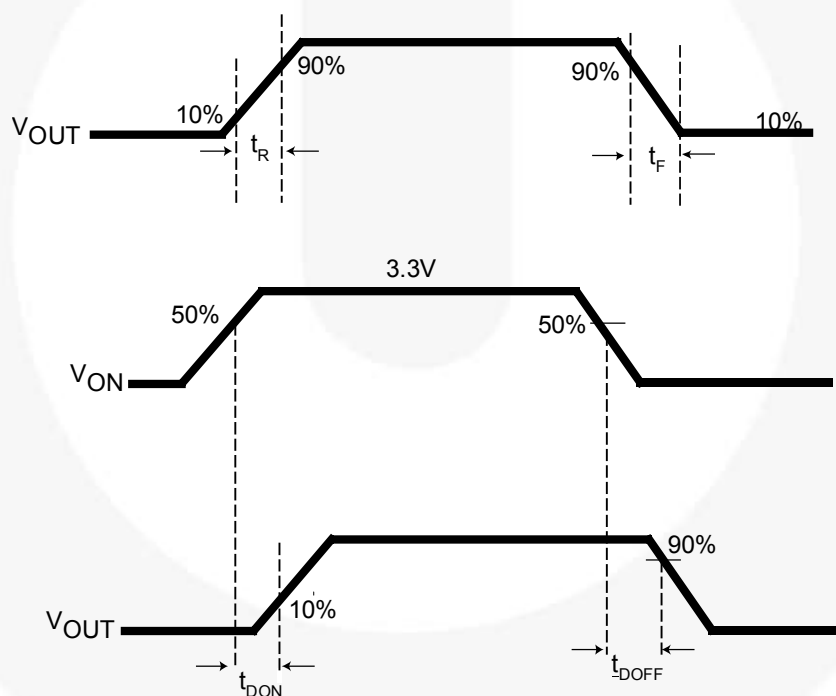

Figure 25. Timing Diagram
- $t_{DON}/t_{DOFF}/t_R/t_F$  are defined in Figure 25.